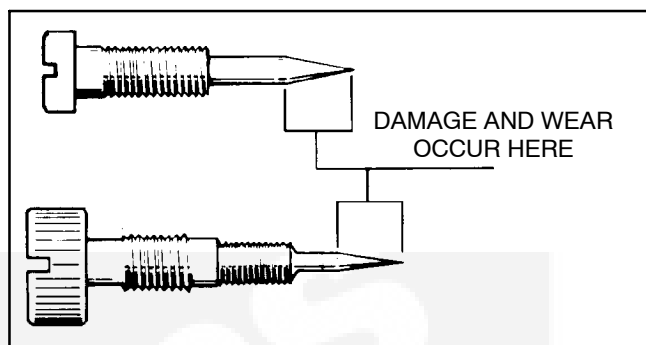

FIGURE 8-20. MIXTURE NEEDLE INSPECTION (PRIOR TO SPEC E, MODEL KV ONLY)
4. Check the condition of any needle valve and replace if damaged (Figure 8-20). Replace float if loaded with fuel or damaged.